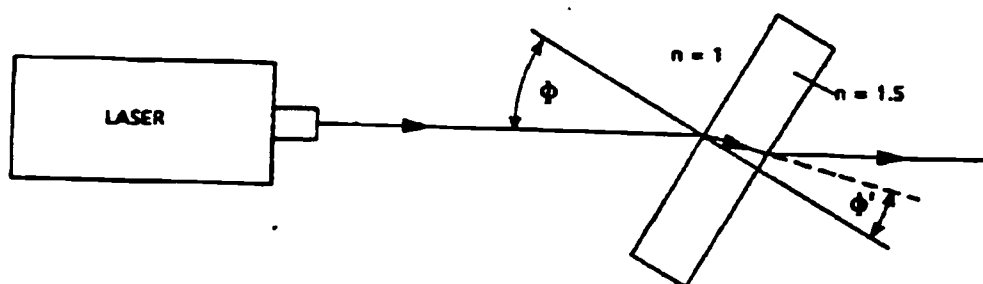

Figure 2
1. Determine the index of refraction of a clear piece of plastic by measuring the incident angle Φ and the refracted angle, Φ' as shown in Figure 2.
- Using the values of Φ and Φ' , and the thickness t of the Lucite or plastic block, compute the displacement, d , of the laser beam in Figure 2. from using the equation